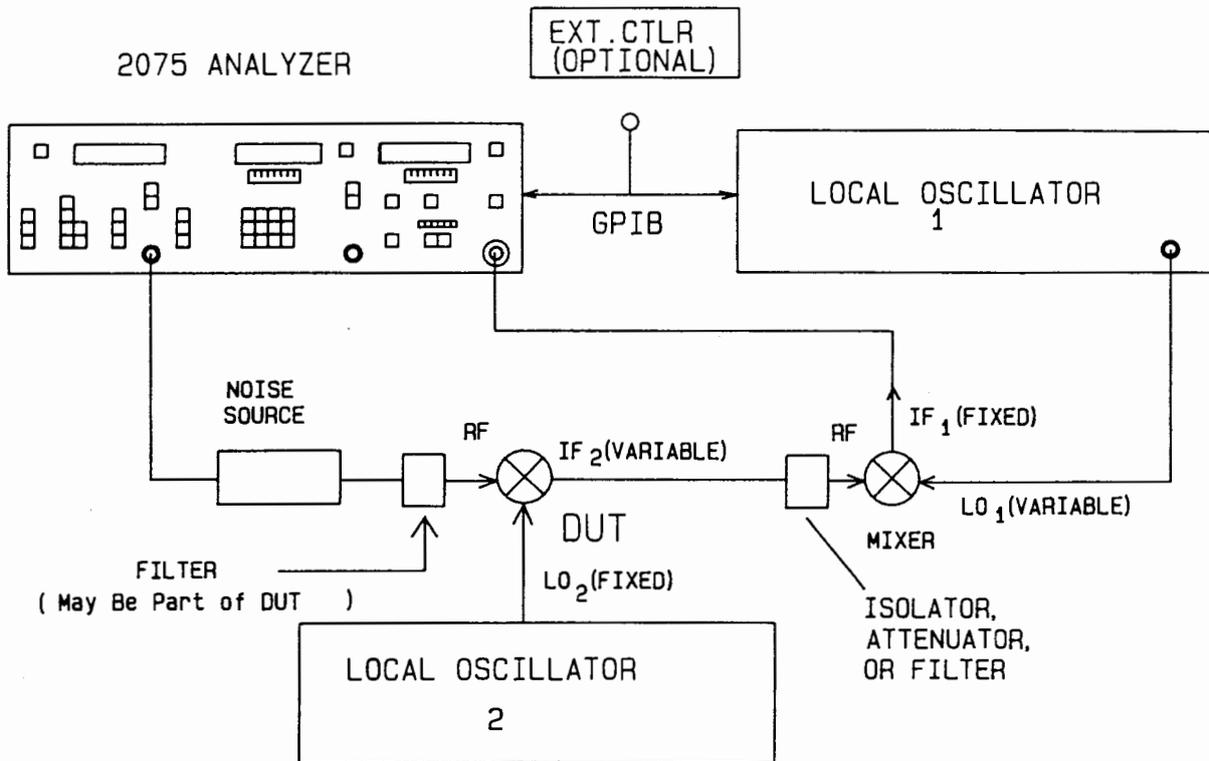

Figure 3-13b. TEST CONFIGURATION 6 MEASUREMENT
- Insert the Device Under Test into the setup, as shown in Figure 3-13b. If external relays are being used, ignore this step. Upon completing the calibration, the 2075 removed voltage from the relays to place the DUT in the measurement path (unless Special Function 10.1 has been activated).